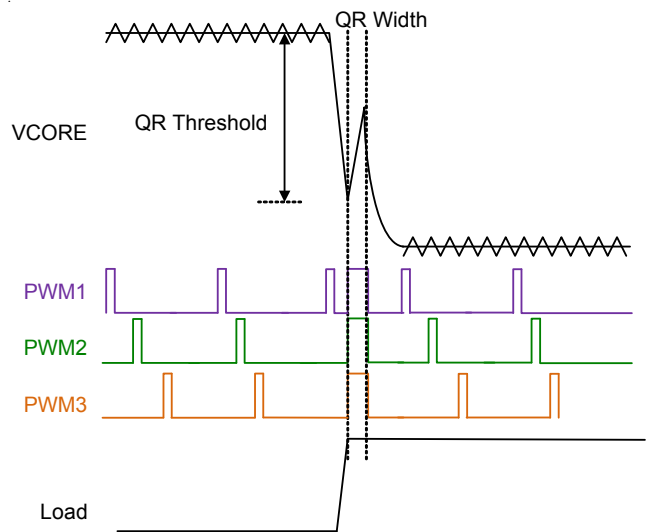
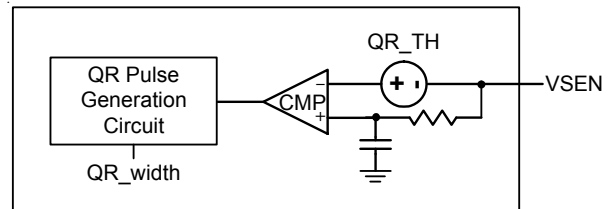

Figure 22. Quick Response Mechanism
Figure 23. Simplified QR Trigger Schematic
When the transient load step-up becomes quite large, it is difficult for loop response to meet the energy transfer. Hence, that output voltage generate undershoot to fail specification. The RT3606BE has Quick Response (QR) mechanism being able to improve this issue. It adopts a nonlinear control mechanism which can disable interleaving function and simultaneously turn on all UGATE one pulse at instantaneous step-up transient load to restrain the output voltage drooping. Figure 22 shows the QR behavior.
The output voltage signal behavior needs to be detected so that QR mechanism can be triggered. The output voltage signal is via a remote sense line to connect at VSEN pin that is shown in Figure 23. The QR mechanism needs to set QR width and QR threshold. Both definitions are shown in Figure 22. A proper QR mechanism set can meet different applications. SET2 can set QR threshold and QR width by internal current source 80µA with multi-function pin setting mechanism.